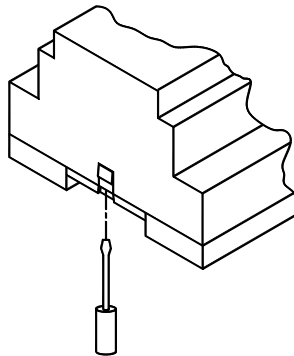

Figure 3. Enclosure Top Removal
2. Open the enclosure by inserting a flat blade screwdriver under the retaining tabs in the base. See Figure 3
1. Open the enclosure by inserting a flat blade screwdriver under the retaining tabs in the base. See Figure 3